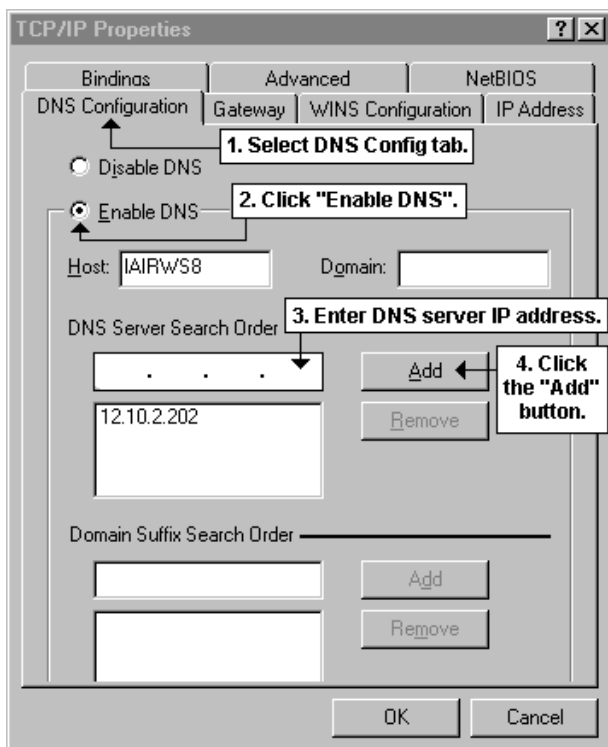

Figure 3-12 Windows 9x®
a.) For Windows 95® or 98®: (see Figure 3-12)